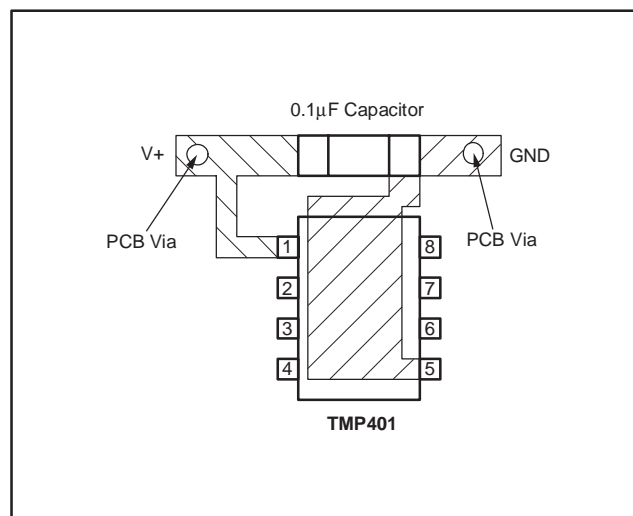

Figure 19. Suggested Bypass Capacitor Placement
4. Use a 0.1 μ F local bypass capacitor directly between the V+ and GND of the TMP401, as shown in Figure 19. Minimize filter capacitance between D+ and D– to 1000pF or less for optimum measurement performance. This capacitance includes any cable capacitance between the remote temperature sensor and TMP401.